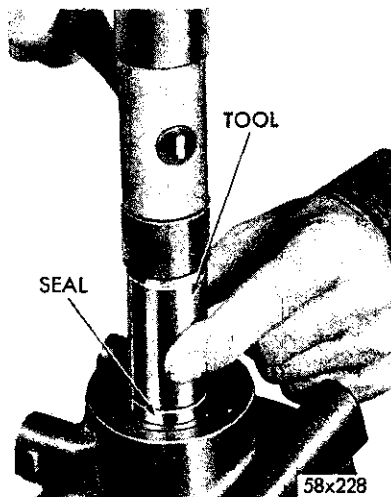

Fig. 6—Installing Pump Oil Seal (Typical)
(7) Install the new seal with the lip of the seal toward the pump. Use Tool C-3782 to drive the seal flush with the insert (Fig. 6).